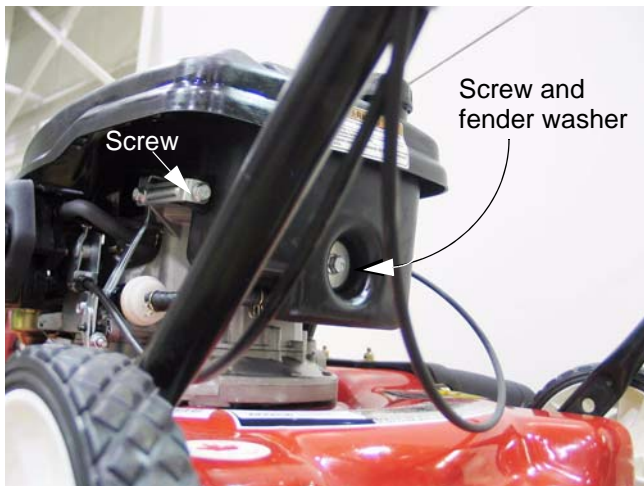

Figure 8.1
- 8.1. The fuel tank is secured to a bracket on the back of the engine by a screw and fender washer, removable with a 12mm wrench, and a second bolt, removable with a 10mm wrench. See Figure 8.1.